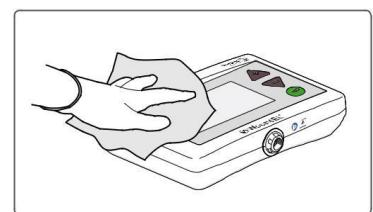

Figure 35. Wipe the device with cloth
1. Thoroughly wipe the device with wipes soaked in disinfectant or ready to use disinfecting wipes that follow the requirements mention in this chapter, *see Figure 35.* Pay attention particularly to edges, narrow corners and ports.